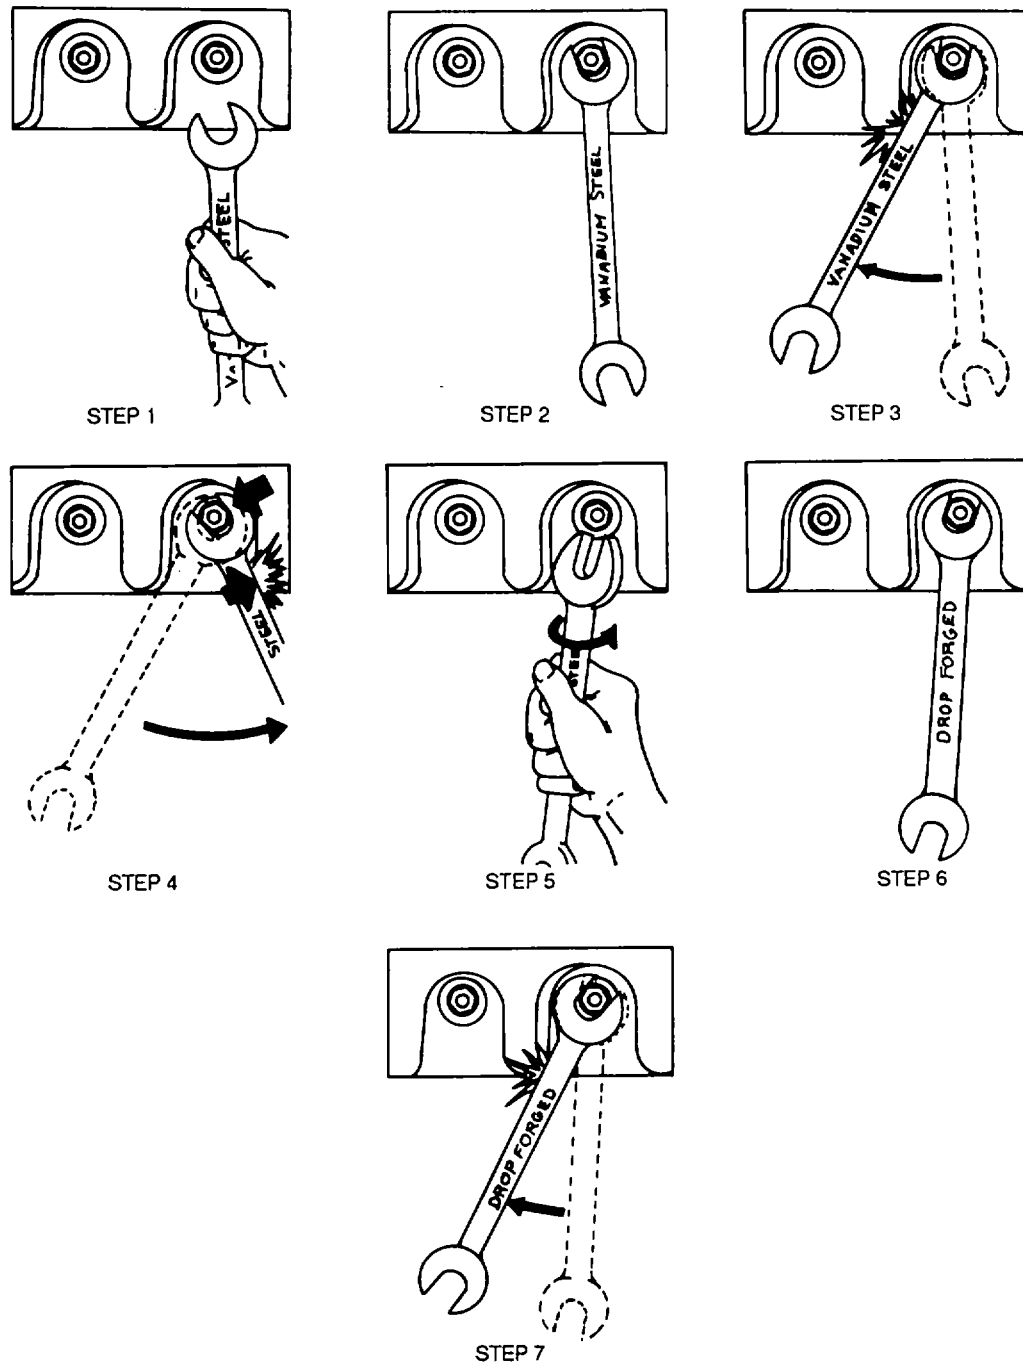

Figure 4-32. Use of Open-End Wrench
(1) *Use of open-end wrenches.* The 15-degree offset of the jaws from the centerline of the wrench makes the open-end wrench appropriate for use in some applications where there is room to make only a part of a complete turn of a nut or bolt. A typical procedure for this application is shown in figure 4-32 and outlined in the following: